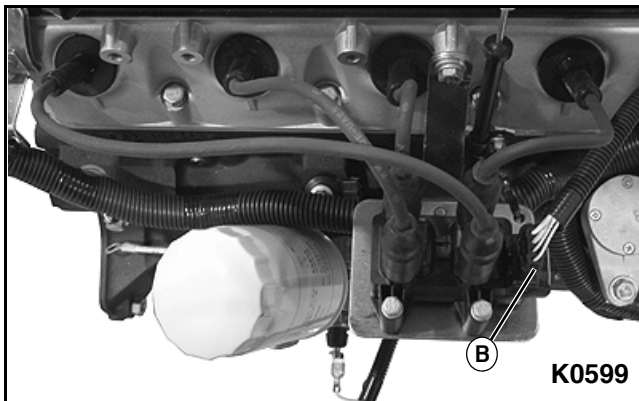

Figure 3-32
2. Connect electrical connector (B) to ignition coil. **See Figure 3-32.**